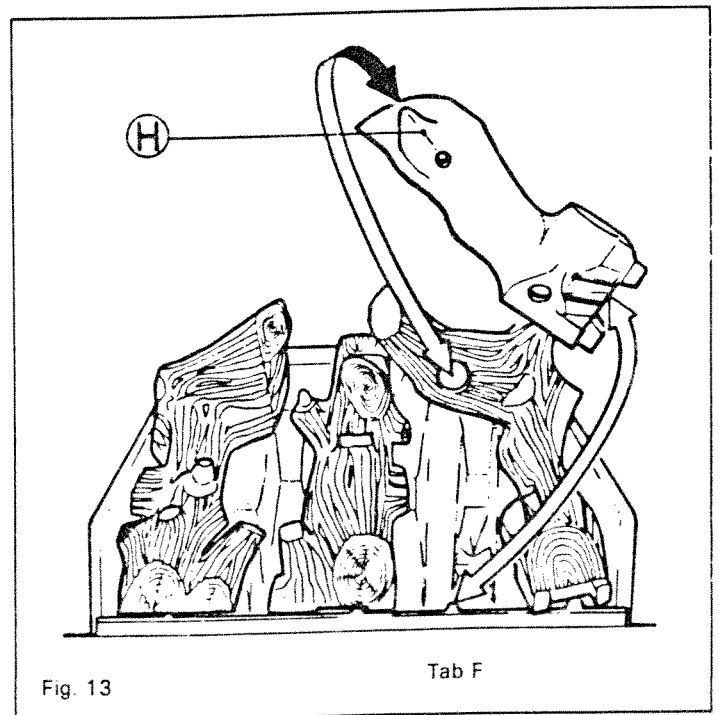

Fig. 13
- (iv) (Refer to Fig 13). Place Log No. 4 between Logs 2 and 3. Locate the groove (situated under the front edge of the log) onto tab 'F' on the front support rail. Locate the projection 'H' (situated under the rear of the log) into the hole in log No. 3.